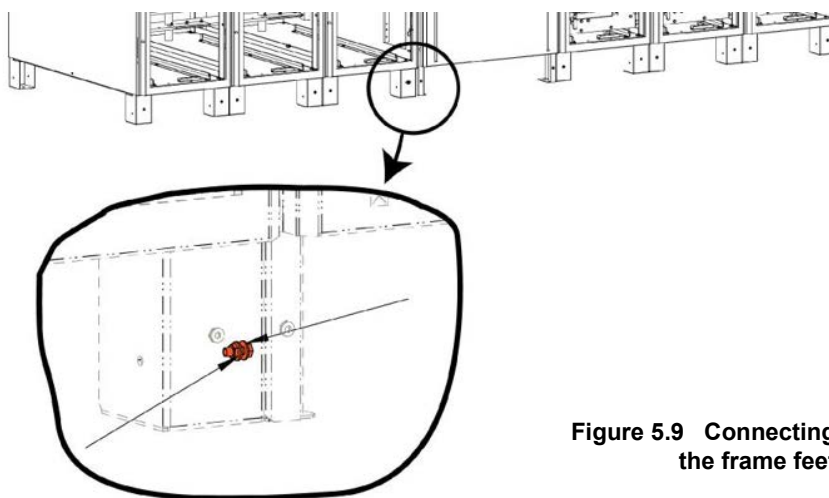

Figure 5.9 Connecting the frame feet
7. Connect the 'right' foot on the front of Frame A to the 'left' foot of the front of Frame B using an M5x 12mm nut and bolt (supplied). (see Figure 5.9)